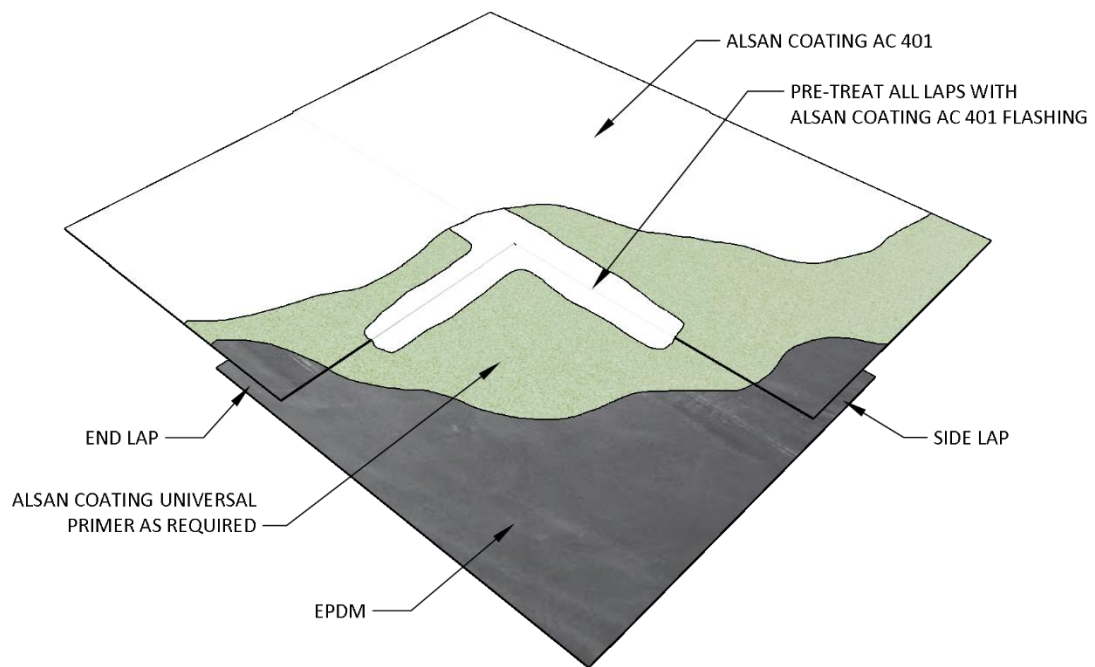

Figure 2.2e Acrylic Roof Coating Over EPDM, Side/End Laps
- Refer to flashing detail guidelines indicated in Figures 2.2e through 2.2h.